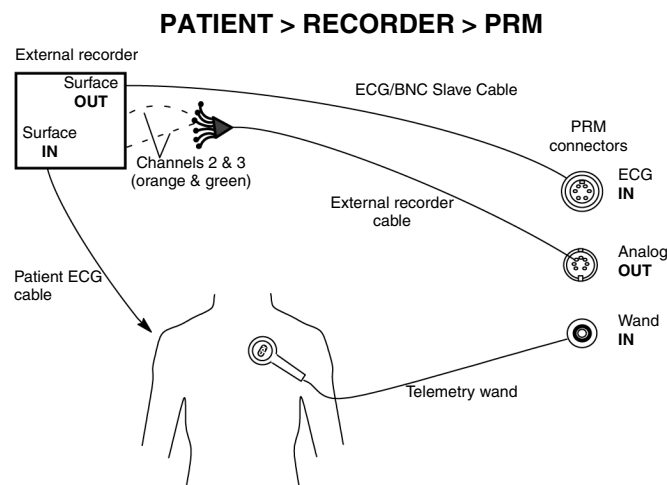

Figure B-3. External recorder gets surface signal and sends it to the PRM. PRM sends electrograms to the external recorder.
- Patient to external recorder to PRM (Figure B-3 on page B-3)
To display a tracing on an external recorder and the PRM without using the patient ECG cable, set up equipment as shown in Figure B-3.